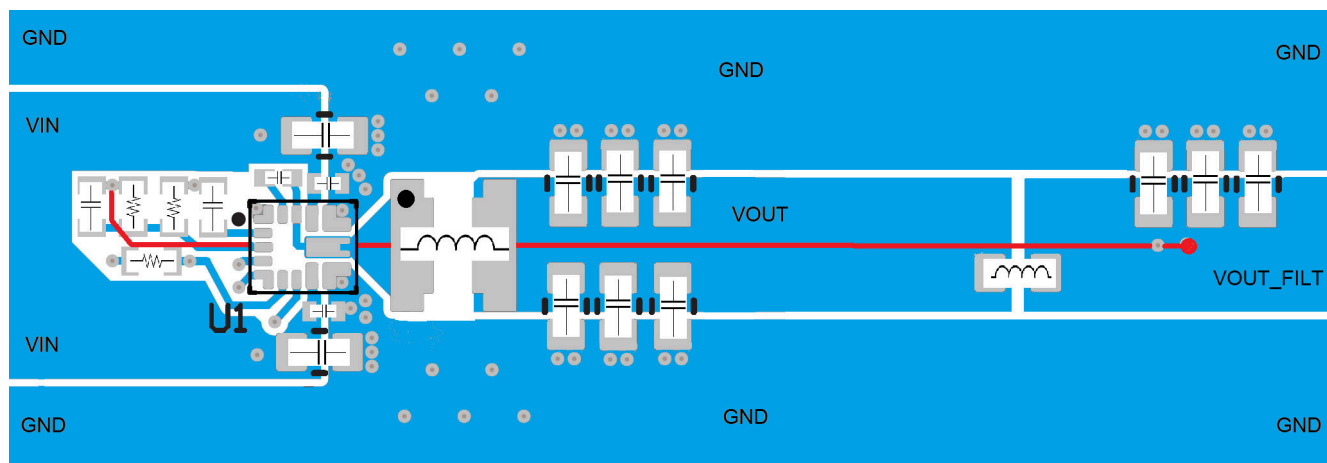

Figure 7-23. Recommended Layout for Design with Second L-C Filter
- Avoid placing the ferrite bead in the keep out region as shown in Figure 7-23
- See the recommended layout implemented on the EVM and shown in the EVM user's guide, TPS62916EVM Evaluation Module, as well as in Figure 7-23.